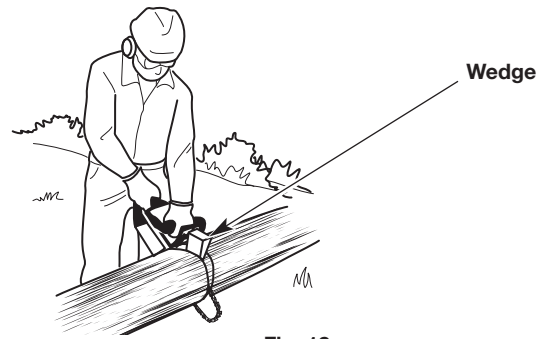

Fig. 18
2. Make the second cut from the opposite side until the two cuts meet. If the diameter of the wood is large enough, insert soft plastic or wooden wedges to hold the cut open and prevent pinching (Fig. 18). Take care not to touch the wedges with the saw chain.